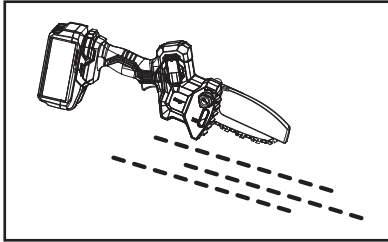

Fig. 11
1. Make sure the guide bar (16) and the saw chain (15) are in place when you check the oil delivery.
2. Start the product; keep it running at no load and check if the chain oil is delivered as shown in the figure (Figs. 11, 12).